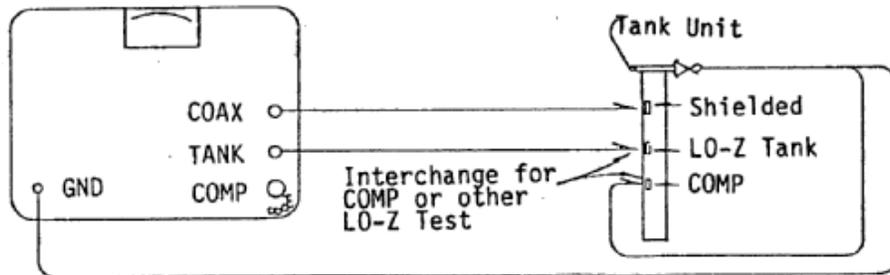
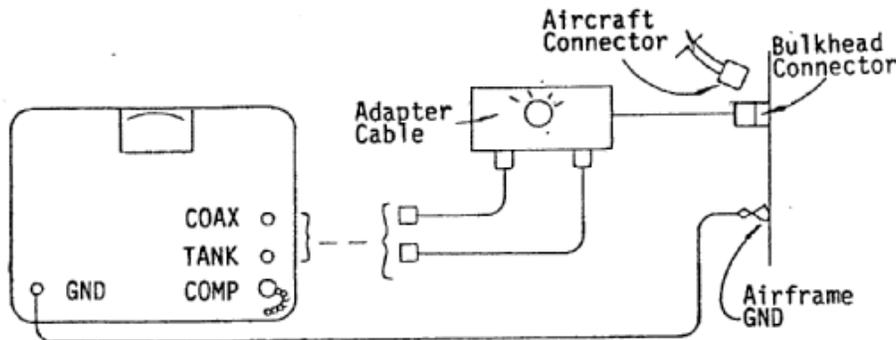

Figure 11 INDIVIDUAL TANK UNIT CAPACITANCE TEST, CONFIGURATION #1
Figure 12 INDIVIDUAL TANK UNIT CAPACITANCE TEST, CONFIGURATION #2
Installed Tank Units may be measured through connections as shown in Figure 11, or may be measured through bulkhead connectors using an adapter cable as shown in Figure 12.
- (1) Set the TANK CAP pF thumbwheels to the value of the Tank-Unit-Under-Test. (If configuration is in accordance with Figure 12, also rotate the adapter's PROBE SELECTOR switch to the position of the Tank-Unit-Under-Test.)
- (2) Press the PRESS TO MEASURE pushbutton.
- (3) Verify that the Test Set's meter pointer is null within tolerance of the Tank-Unit-Under-Test.